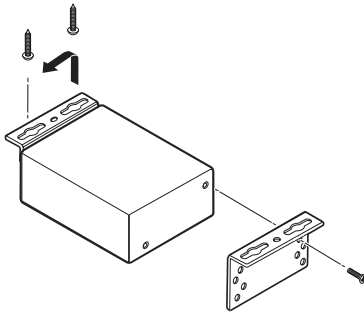

Figure 2-6 — Preparing the YCS 100 for under-desk mounting
3. Attach one bracket to the side of the unit, using the provided machine screws (see figure 2-6, below).